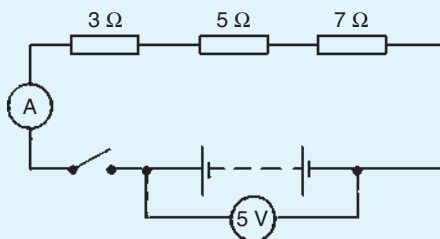

Figure 5.56
3. With the switch in Fig. 5.56 closed, the ammeter reading will indicate: